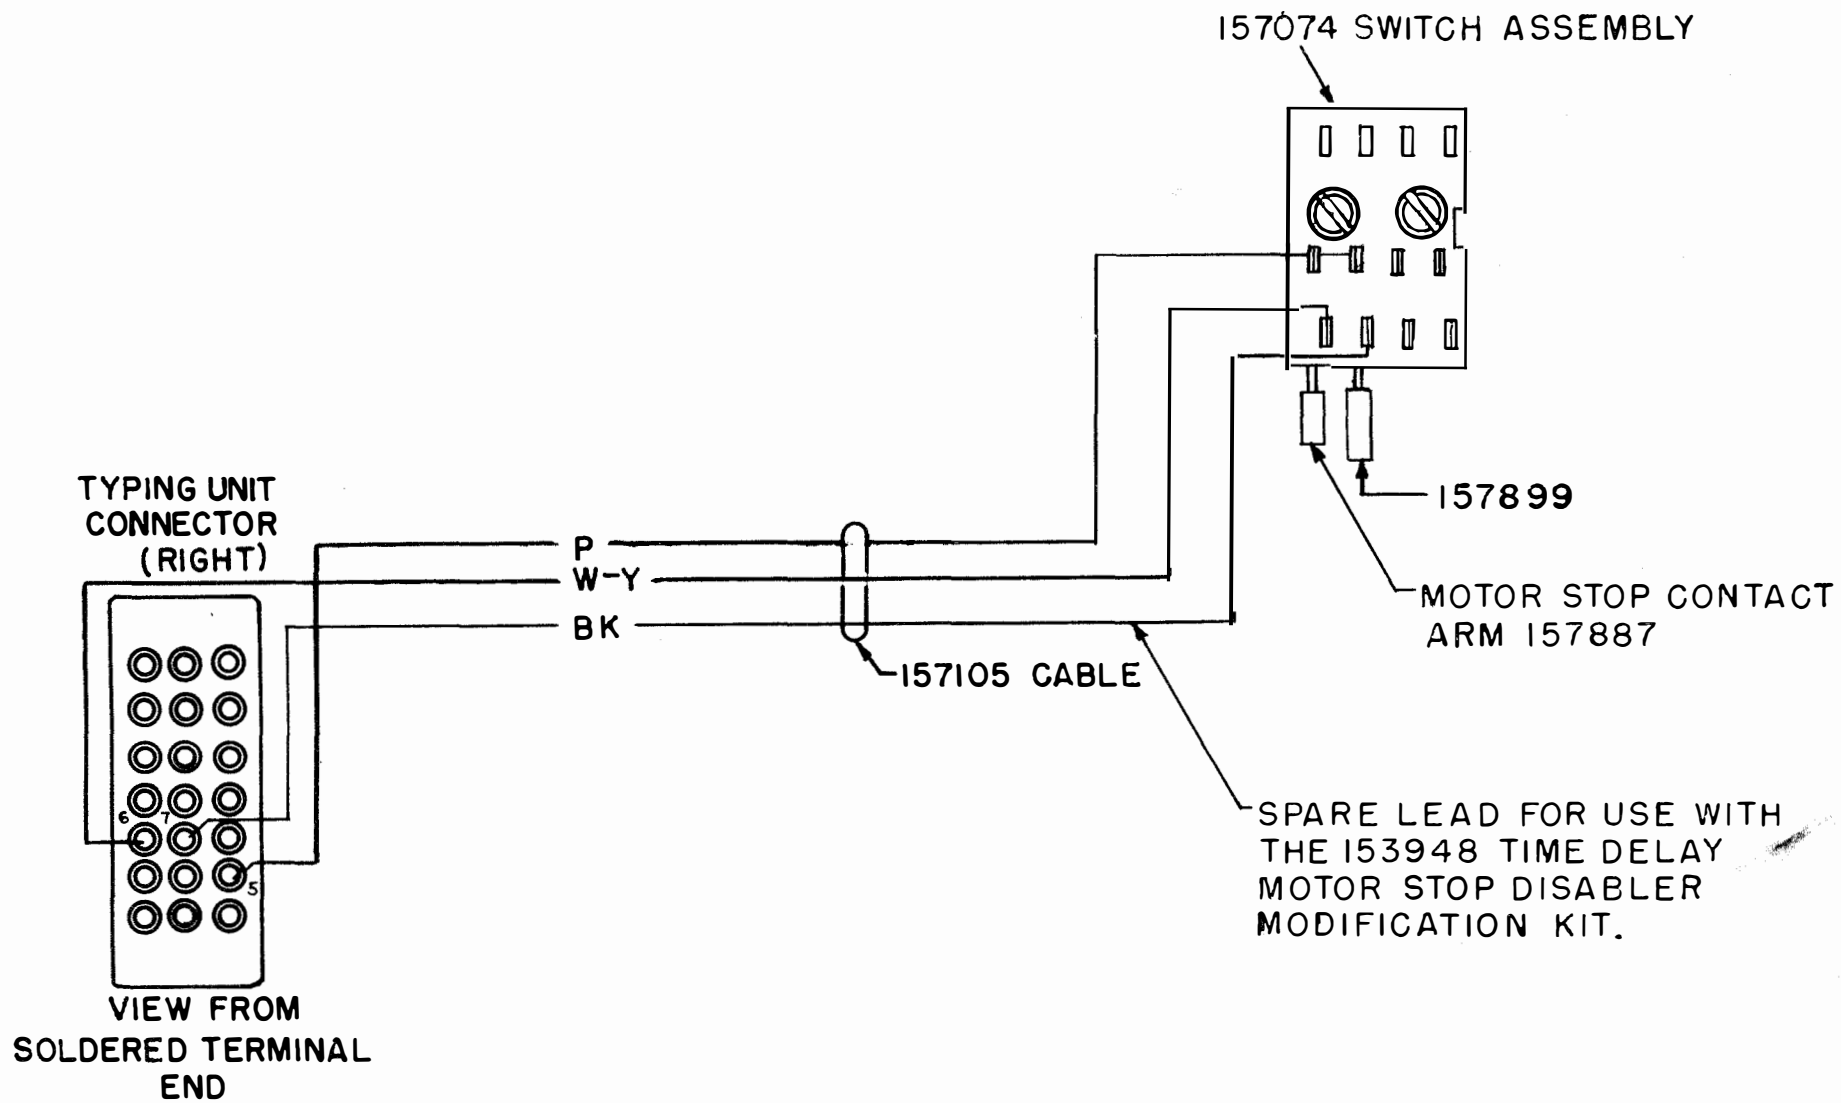

FIGURE 1
\* (26) Solder the 157105 cable to the 157074 switch assembly in accordance with Figure 1. Use a minimum amount of solder taking care not to allow flux to flow around the contact surfaces. The two 155751 insulating sleeves are to be used at the end where the cable is soldered to the typing unit connector. The black wire of the 157105 cable is to be utilized when the Time Delay Motor Stop Disabler Contact is used and therefore should be taped and tied to the cable when not in use.
\* (27) Place a 155751 insulating sleeve over each lead of the cable before soldering the wires to the connector terminals. Solder the 157105 cable leads to the typing unit connector on the right side of printer in accordance with Figure 1. Slide the tubing over the terminals after soldering.
(28) Reinstall the stunt box.
\* (12) Solder the black wire of the 157105 cable to the switch terminal as shown in Figure 1. Place the 155751 insulating sleeve over the lead of the cable before soldering the black wire to the connector terminals. Solder the other end of the wire to terminal 7 of the auxiliary typing unit connector on the right side of printer. Slide the tubing over the terminal after soldering. Strap the contact arm springs of the Time Delay Motor Stop Disabler and Motor Control Contact Mechanism.